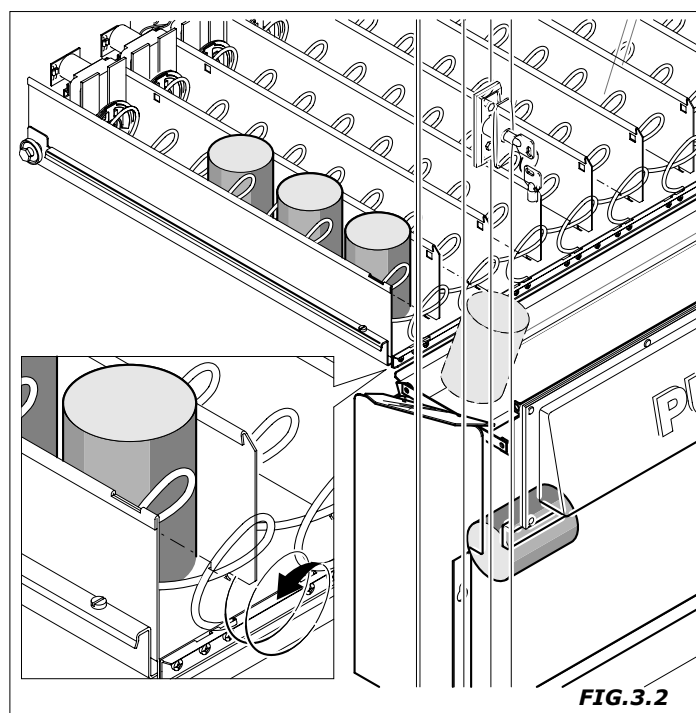

FIG.3.2
- the motor for the spiral in which the chosen product is located makes one complete rotation (360°) dropping this product into the collection bay (Fig.3.2).